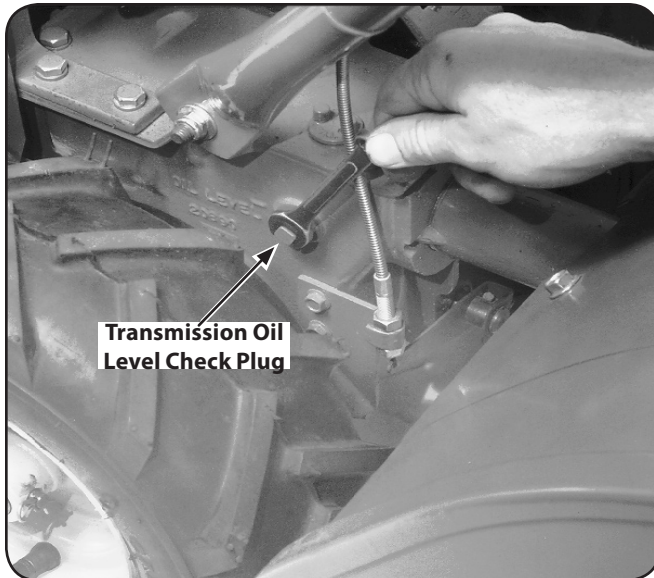

Figure 6-1
3. Remove the oil level check plug on the left-side of the transmission. Due to dried paint on the plug threads, it may require some force to remove the plug the first time. See Fig. 6-1. The gear oil level is correct if oil starts to flow out of the hole as the plug is removed. If so, securely reinstall the plug.